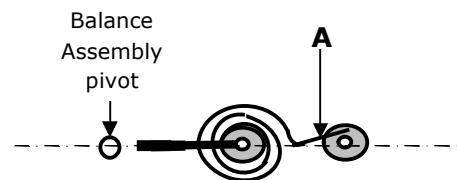

FIGURE 5.12: Alignment of contact hairspring assembly
Fit and align the contact hairspring. The contact arm should sit as shown in *fig. 5.12*. Ensure that the contact arm sits in line with the balance pivots before pushing the tail end collet home onto the connecting pillar of the shunt bridge assembly (20). This alignment can be affected if the hairspring is bent at the point marked "A" which is easily done.